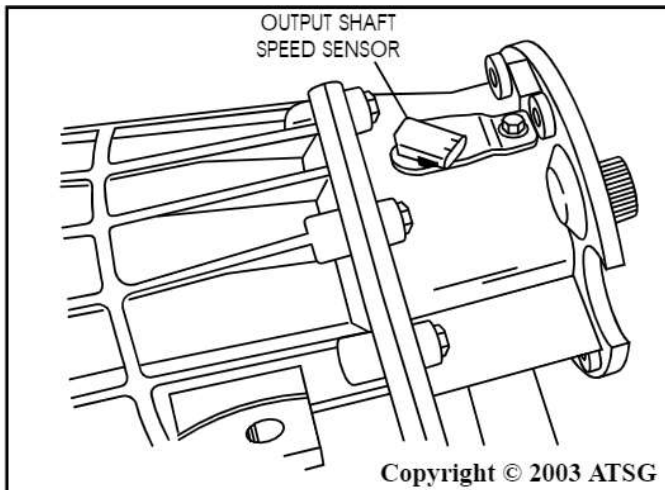

Figure 201
5. Install output shaft speed sensor, if equipped, as shown in Figure 201, and torque the bolt to, 8-10 N·m (71-81 in lb.).